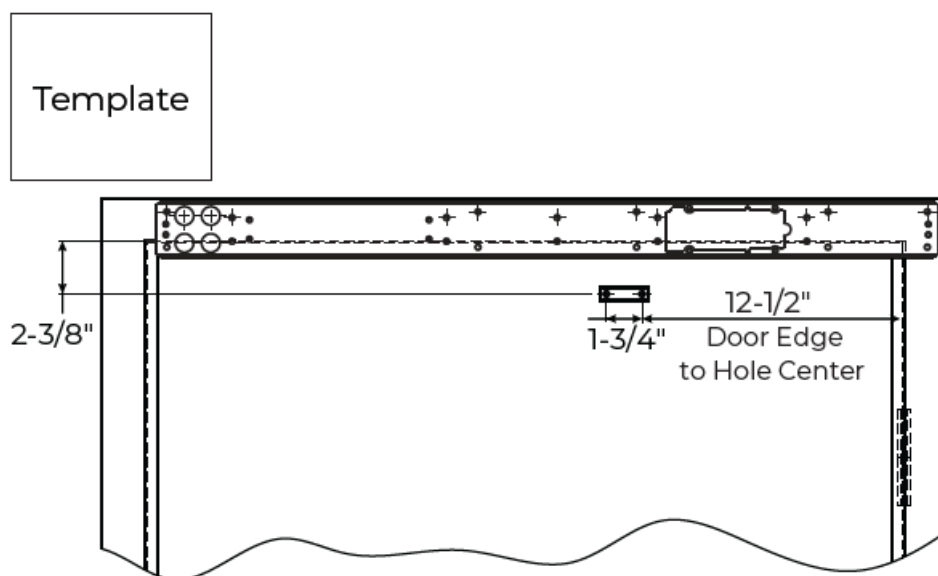

Figure 4
1. Measure and mark the door for the first forearm shoe mounting hole using a template. (Figure 4)